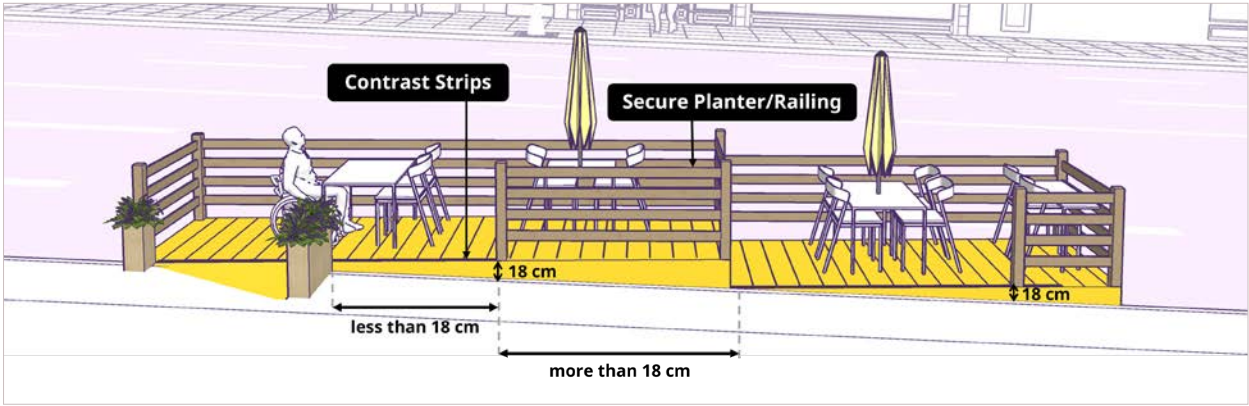

Figure 19: Terraced deck with exposed edges along the sidewalk
- c. For safety, any exposed edges along the sidewalk over **18 cm** in height requires a railing or planter; exposed edges under **18 cm** in height require a contrast strip (see Figure 19).
- The ramp/entrance must be at minimum **1.6 m** wide (see Figure 19).